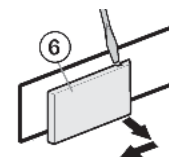

Fig. 7
- ▶ Loosen cover that is on the hinge side Fig. 7 (6) using a screwdriver and remove by pulling outwards.